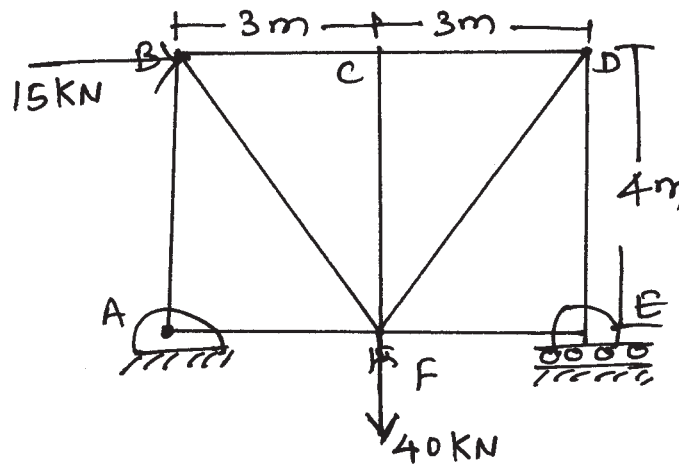

Fig. No. 7
- c) Determine the forces in any six members of the truss as shown in Fig. No. 7. Tabulate the results using method of section.